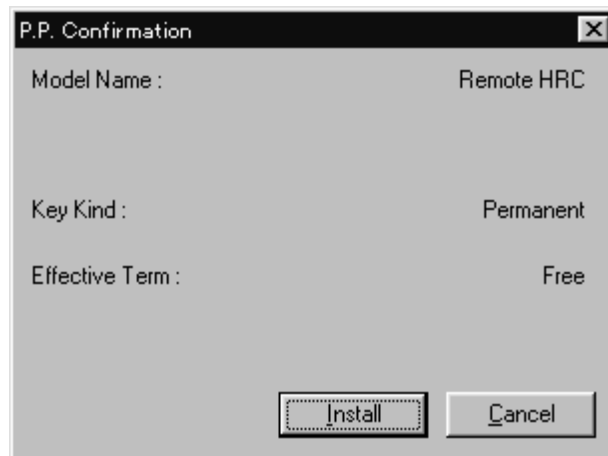

Figure 2.18 Program Product Confirmation Panel
4. If the password is approved, the Program Product Confirmation panel (see Figure 2.18) opens. This panel shows the program product model name (e.g., **Remote SCSI**), type of key (e.g., **Permanent**), and effective term (e.g., **Free**).
6. If the password is approved, the Program Product Confirmation panel (refer to Figure 2.18) opens. This panel shows the program product model name (e.g., **HMBR**), type of key (e.g., **Permanent**), effective term (e.g., **Free**).
5. If the password is approved, the Program Product Confirmation panel (see Figure 2.18) opens. This panel shows the program product model name (e.g., **Remote LUSE**), type of key (e.g., **Permanent**), effective term (e.g., **Free**). After confirming the content of the Program Product Confirmation panel, select **Install**.
13. If the password is approved, the Program Product Confirmation panel (refer to Figure 2.18) reopens. This panel shows the program product model name (e.g., **LUSE**), key kind (e.g., **Permanent**), and effective term (e.g., **Free**).